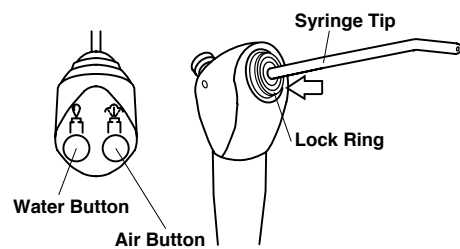

Fig. 3-3 3-Way Syringe
(2) 3-Way Syringe
A. 3-Way Syringe Operation (Fig.3-3)